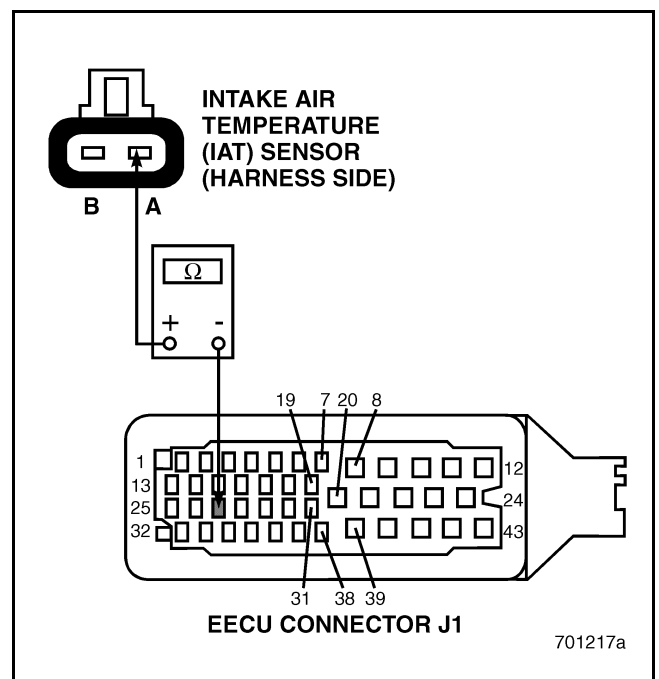

Figure 203
4. Check for continuity between pin A of the IAT Sensor harness connector and EECU harness connector J1 pin 27 (see Figure 203).